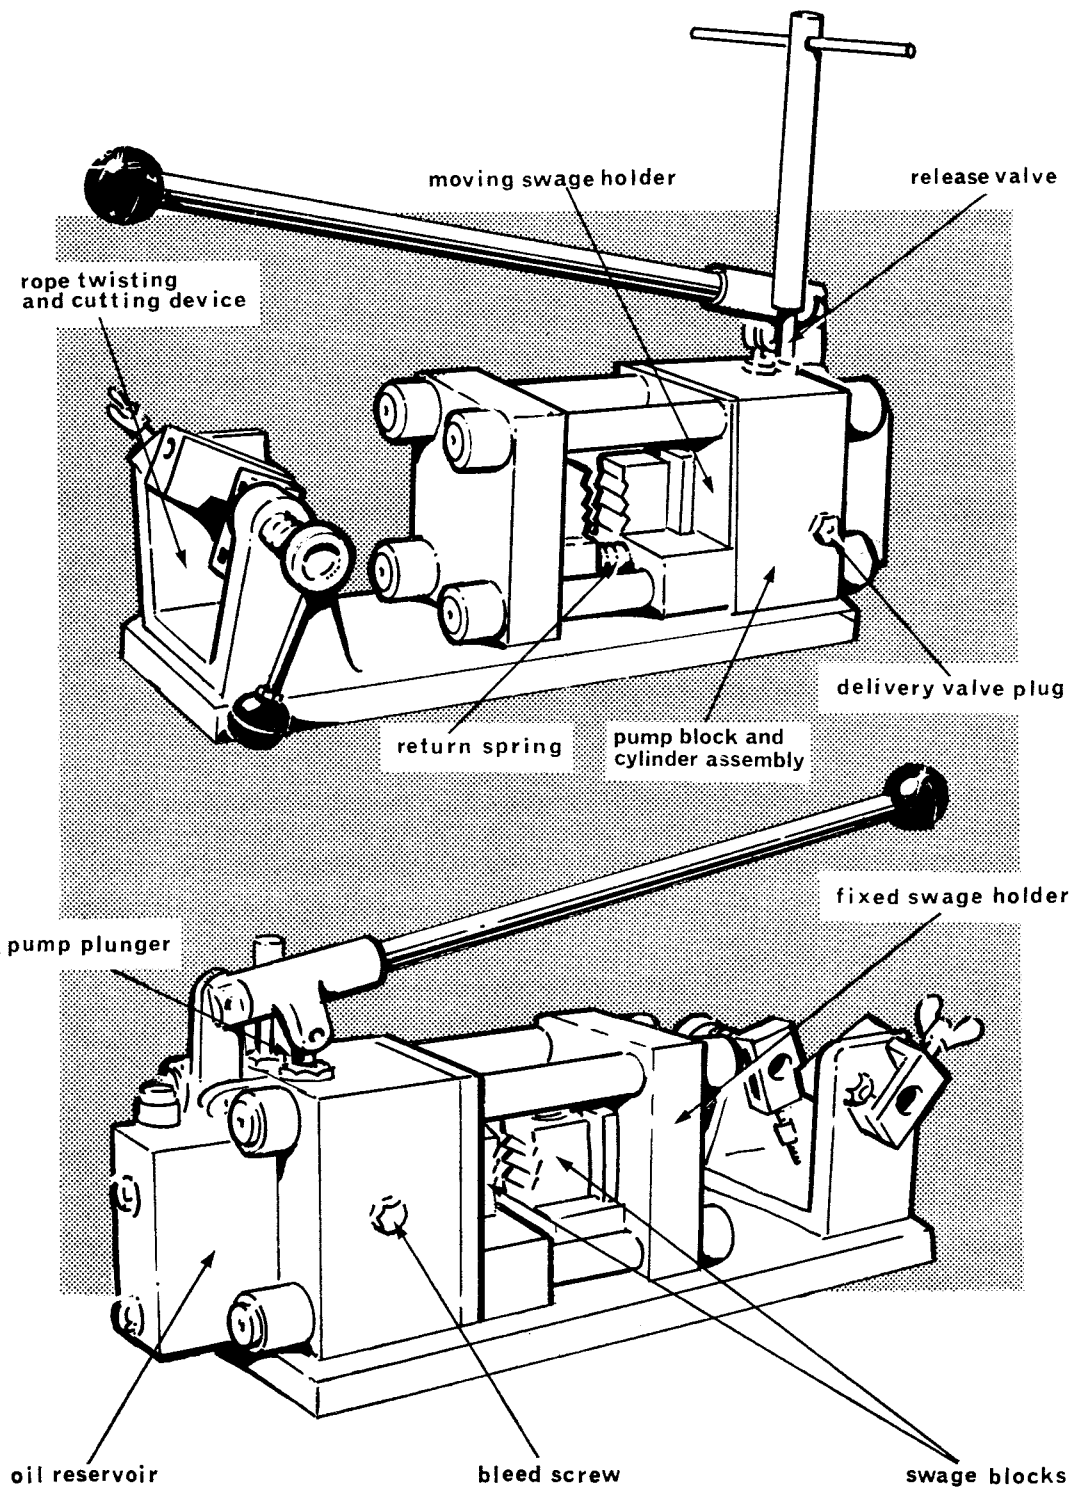

Fig 10.2 'Talurit' 25 ton Hand-operated Press
The 25-ton press is a self-contained hydraulically-operated unit mounted on a wooden base (Fig 10.2). The main parts of the press include a pump block and cylinder assembly, a moving swage holder, and a fixed swage holder. Also mounted on the wooden base is a rope twisting and cutting device.
This device (Figs 10.2 and 10.6) is used for twisting the wire rope to seal the lay to prevent fraying of the ends when the rope is cut. The device consists of two clamping dogs, each mounted on a vertical plate. The left-hand dog is fixed to its plate and the right-hand dog is fitted with a lever and is free to be rotated. A cutting blade is operated by inserting the end of the press operating lever in a hole in the end of the blade and pressing the lever downwards.
- Close the release valve (Fig 10.2) and operate the pump to bring the swage blocks lightly face to face; line up the two half blocks and bolt them securely in position, then open release valve. The press is then ready for use.